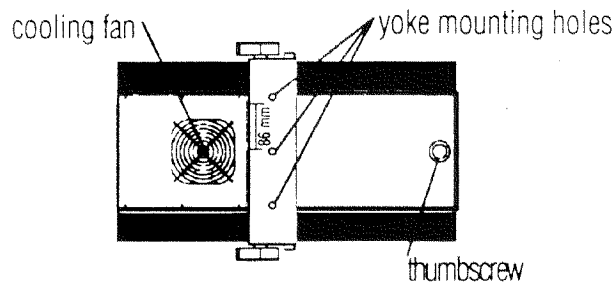

Figure 2.3 Emulator Fixture - Top View
5. On the top of each yoke are three mounting holes [13 mm (.5 in) diam.] which allow two different ways to mount the fixture. The three holes are spaced 86 mm (3.4 in) apart (See Figure 2.3) The fixture may be mounted with a single clamp in the center of the yoke, or with two clamps on either side of the yoke.